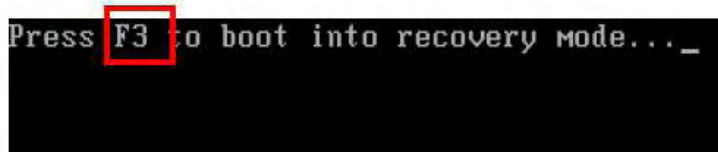

Figure B-10: Press F3 to Boot into Recovery Mode
- Step 1:** Turn on the system. When the following screen displays (**Figure B-10**), press the <F3> key to access the recovery tool. The message will display for 10 seconds, please press F3 before the system boots into the operating system.